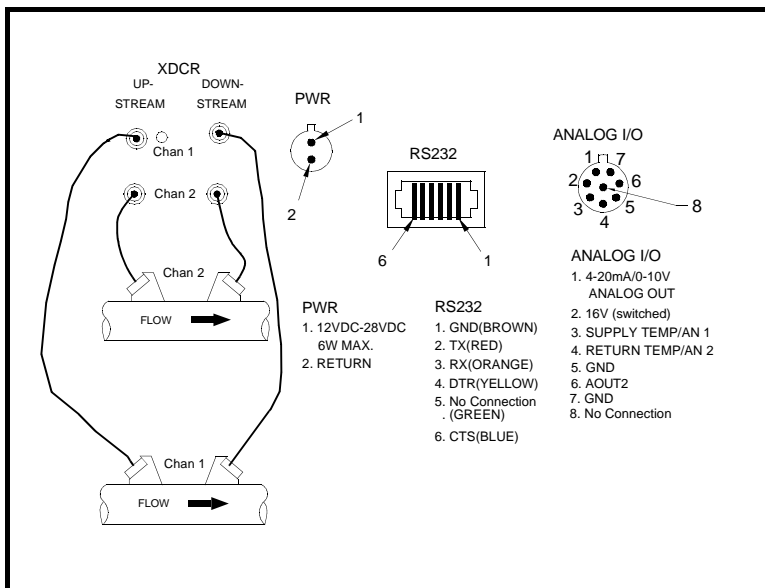

Figure 8-3: Analog Input Connections
The Two-Channel TransPort allows you to calibrate the analog inputs using an external reference. To calibrate the analog inputs, you must connect a low and high temperature reference or a calibrated current source to the analog input connector as shown in Figure 8-3 below.
1. Connect the low temperature reference (or current source) to the temperature input for supply (see Figure 8-3 on page 8-5).
1. Connect the high temperature reference (or current source) to the temperature input for supply (see Figure 8-3 on page 8-5).
1. Connect the low temperature reference (or current source) to the temperature input for return (see Figure 8-3 on page 8-5).
1. Connect the high temperature reference (or current source) to the temperature input for return (see Figure 8-3 on page 8-5).